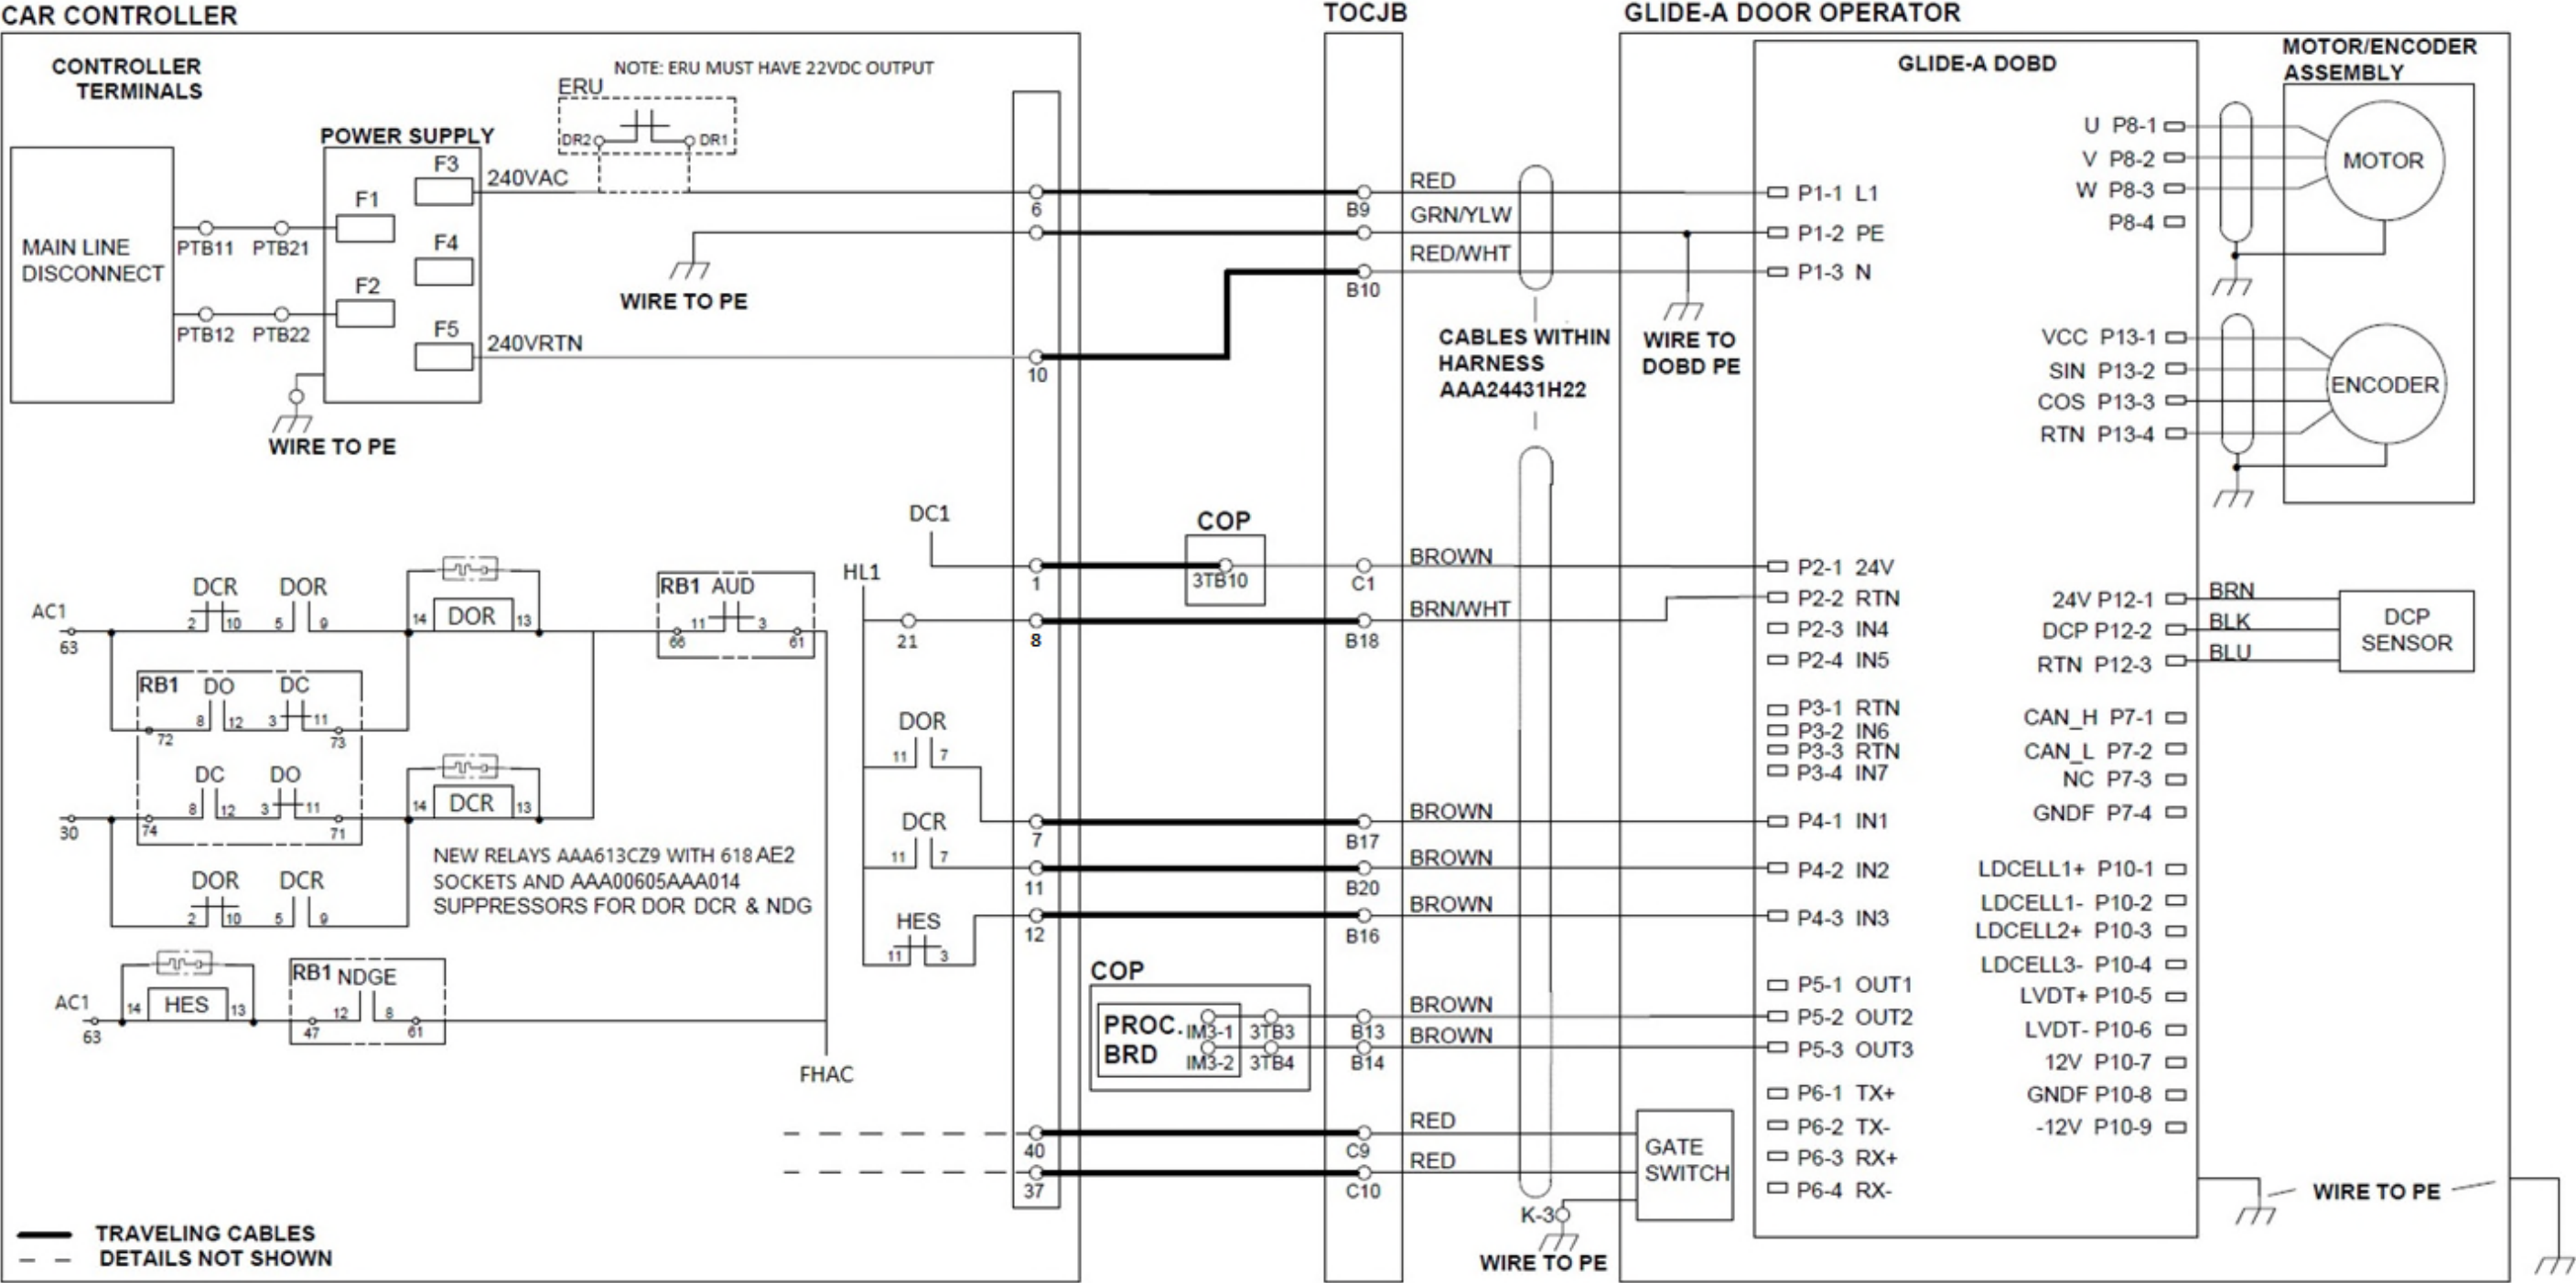

Figure 18: Connection Summary for W/D 8-1S7900AS
- **Connection Summary** Figure 18